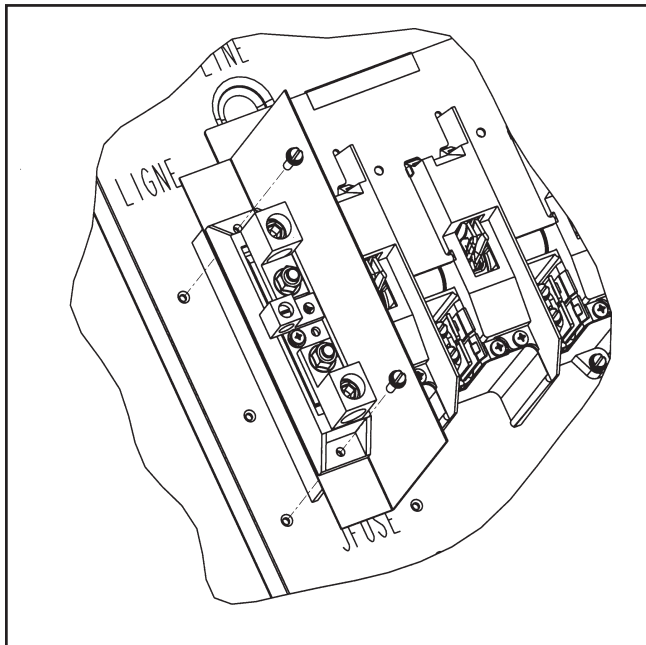

Fig. 1
3. Place Neutral inside switch enclosure as shown in Fig. 1.